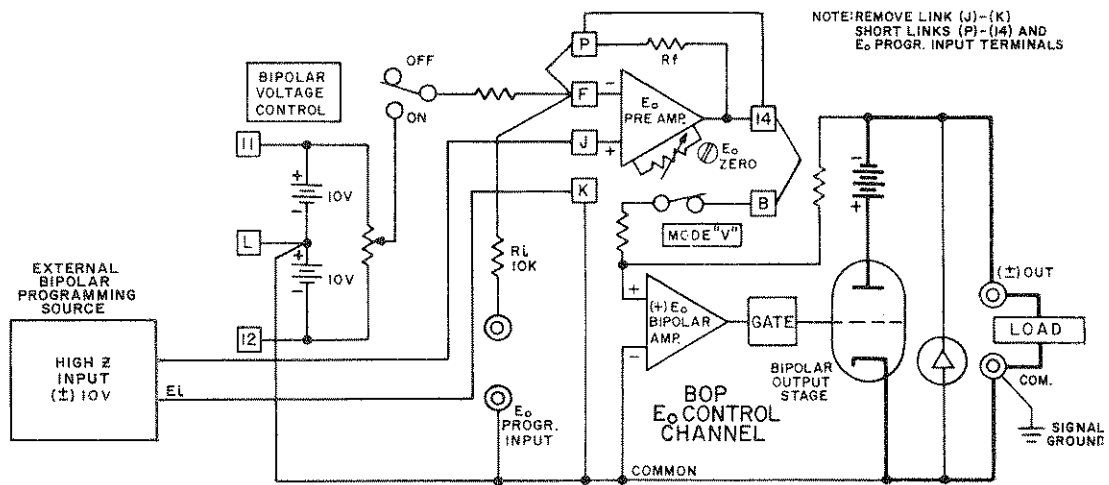

FIG. 3-11 PROGRAMMING CIRCUIT FOR DRIVING THE BOP OUTPUT VOLTAGE WITH A HIGH-IMPEDANCE SOURCE, USING THE NON-INVERTING INPUT OF THE PRE-AMPLIFIER
- 3-27 The non-inverting input of the E_o PRE-AMP is used for applications where the external programming source has a high impedance and/or cannot supply the necessary 0.1 mA drive current, or where a negative going output swing is desired for a positive going input signal. The necessary connections are illustrated in FIG. 3-11 for a E_o PRE-AMP GAIN of unity (with the built-in value for R_f retained and a short across R_f), although other gain configurations can be chosen, according to the output equation for the non-inverting configuration: